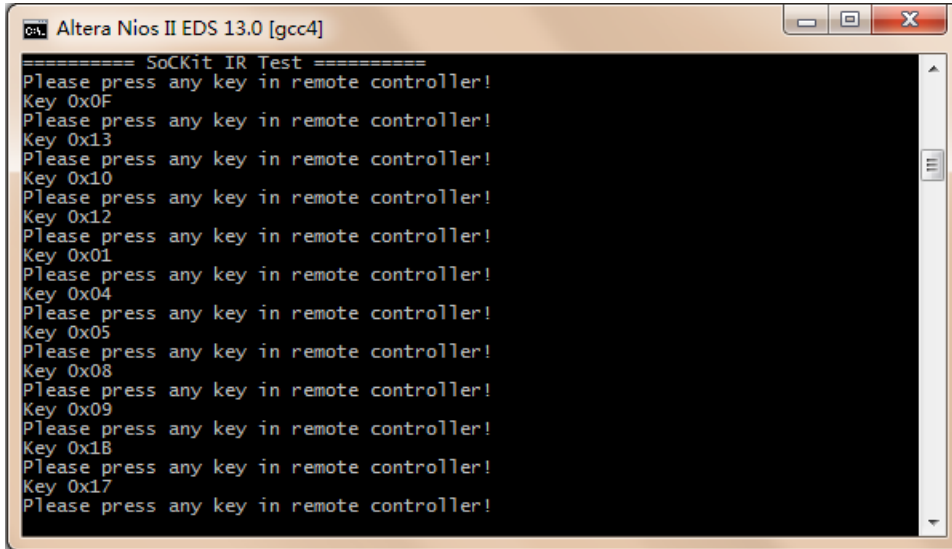

Figure 5-13 Running results of the IR demonstration
- the information will be displayed in nios2-terminal, shown in **Figure 5-13**.